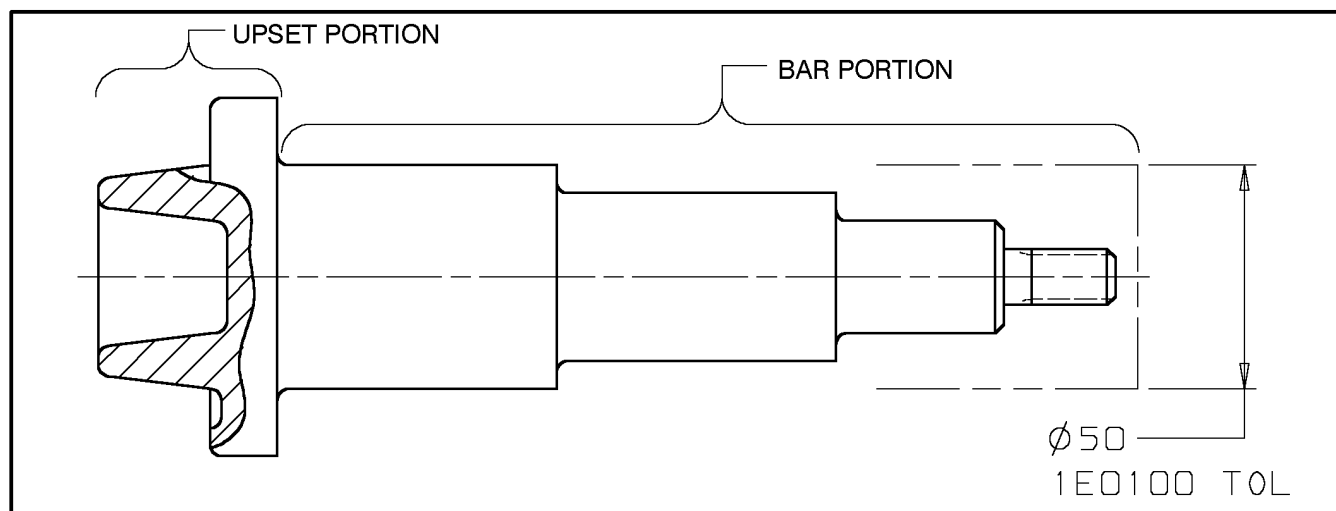

Figure 34 - 1E0100 Tolerance Upset Forging
**13.4.1** Figure 34 illustrates use of 1E0100 Forger Instructions tolerance to control the bar portion of an upset forging. The tolerances in 1E0100 Forger Instructions include allowances to cover indentations and bulges caused by gripper dies in addition to normal wrought steel mill tolerances for bar. 1E2177 Mill Tolerances is specified when gripper die marks are not permitted on the bar portion. Normally the specified bar size is enough larger than the machined size to provide a machine allowance that covers the bar portion for both size and location and includes allowance for gripper die marks, straightness, perpendicularity, and axial alignment with the upset portion of the forging.